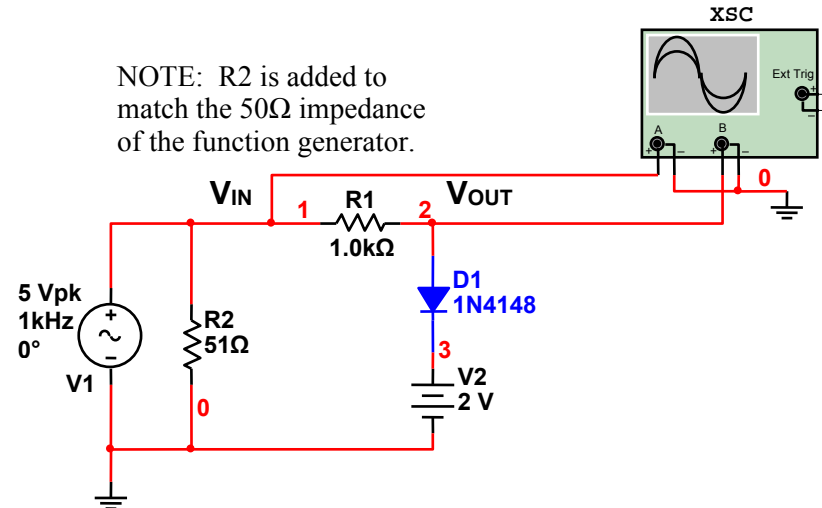

Figure 1-4.
- 3.1 Build the diode circuit shown in Fig. 1-4. Use the function generator to set up the input signal source (V1) to be a 5Vpk sine wave at a frequency of 1kHz. Adjust the DC power supply (V2) for an output of 2V.